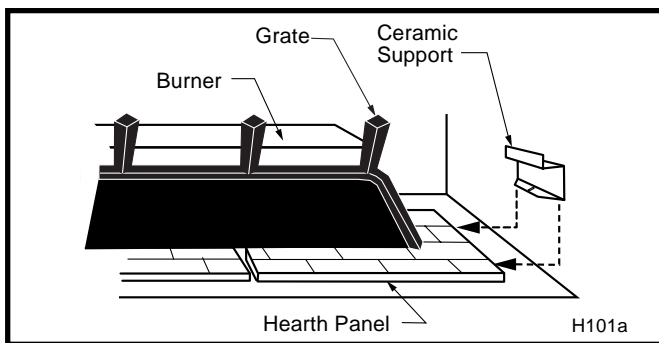

Fig. 75 Ceramic support.
2. Insert supports under ceramic hearth panels. (Fig. 75)